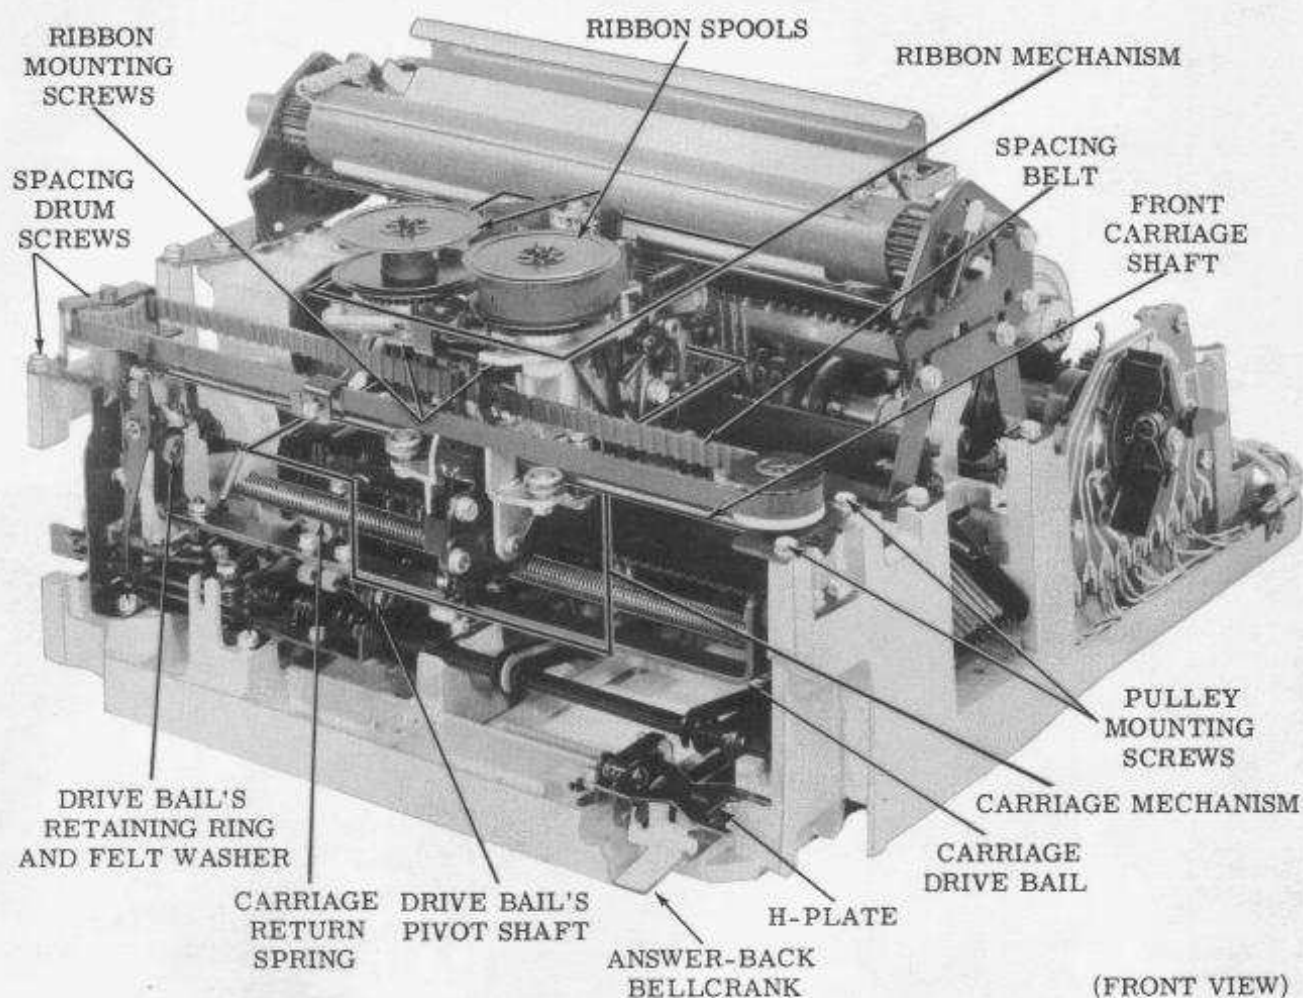

Figure 2 — Typing Unit
Note: Reference Figure 2.
Note: Reference Figures 2 and 5.
- (1) Remove TP3598 nut and flat washer from TP180546 pivot shaft on carriage drive bail. Disengage front end of TP181005 drive link from pivot shaft.
- (2) Remove TP119649 retaining ring from function rocker shaft's TP180774 drive arm. Disengage TP180746 arm on function rocker shaft from drive arm.
- (3) Position main shaft mechanism to right and lift from base casting.
- (4) To replace main shaft mechanism, reverse procedure used to remove it. Make sure distributor shaft is properly positioned to left against pressure of brush spring.
- Note: Reference Figures 2, 3, and 7.